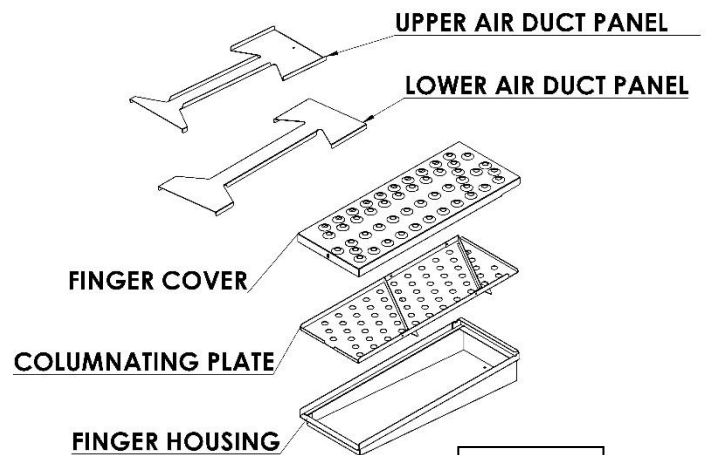
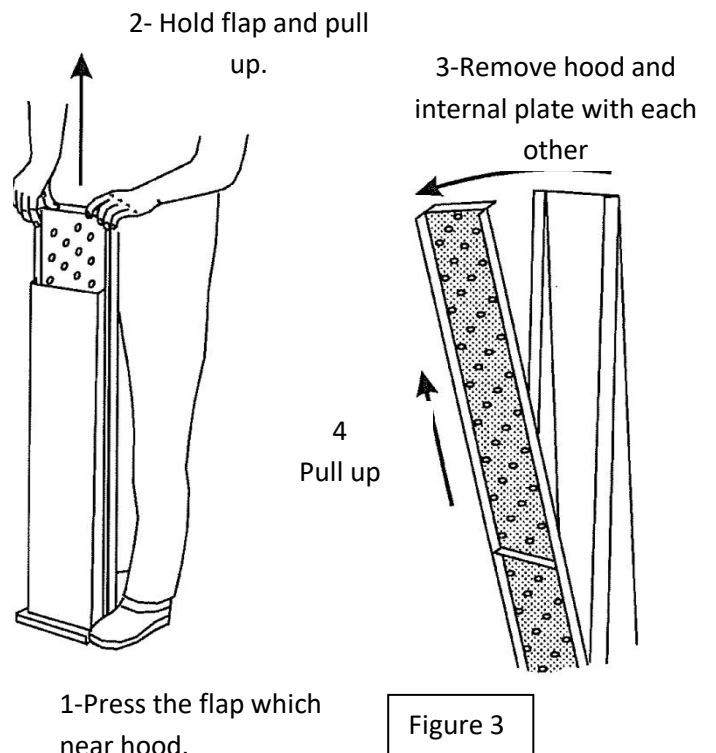

Figure 2
Figure 3
7. Remove air canals as shown Fig. 2 and Fig. 3. Apply marking when you remove air canals.